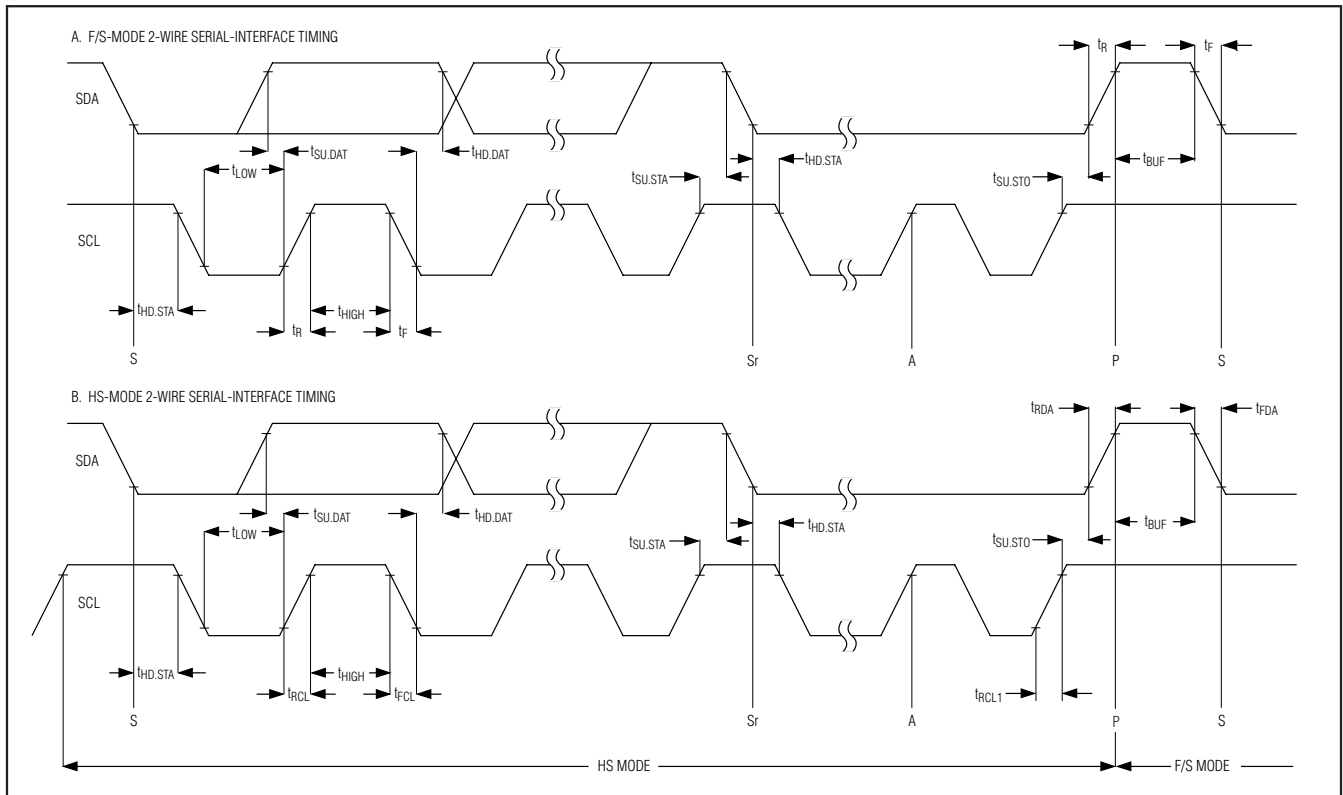

Figure 1. 2-Wire Serial-Interface Timing
### TIMING CHARACTERISTICS (Figure 1)
### TIMING CHARACTERISTICS (Figure 1) (continued)
## TIMING CHARACTERISTICS (Figure 1) (continued)
**Note 10:** A master device must provide a data hold time for SDA (referred to VIL of SCL) to bridge the undefined region of SCL's falling edge (see Figure 1).
At power-up, the MAX11612-MAX11617 bus timing is set for fast-mode (F/S mode), which allows conversion rates up to 22.2ksps. The MAX11612-MAX11617 must operate in high-speed mode (HS mode) to achieve conversion rates up to 94.4ksps. Figure 1 shows the bus timing for the MAX11612-MAX11617's 2-wire interface.